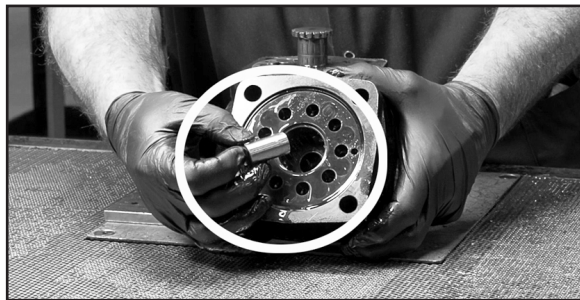

Figure 7
**NOTE** If the roll pin does not fall out as you remove the end cover, turn the end cover with the disc valve facing down onto a clean soft surface. Knock several times using plastic hammer on the rear end cover. Set aside fallen parts in order as shown above. (Figure 7)